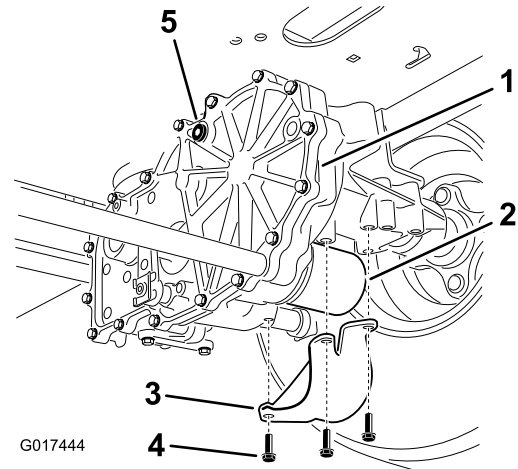

Figure 72
4. Locate the filter and guards on each transaxle-drive system (Figure 72).
5. Remove the 3 screws securing the filter guard and guard (Figure 72).